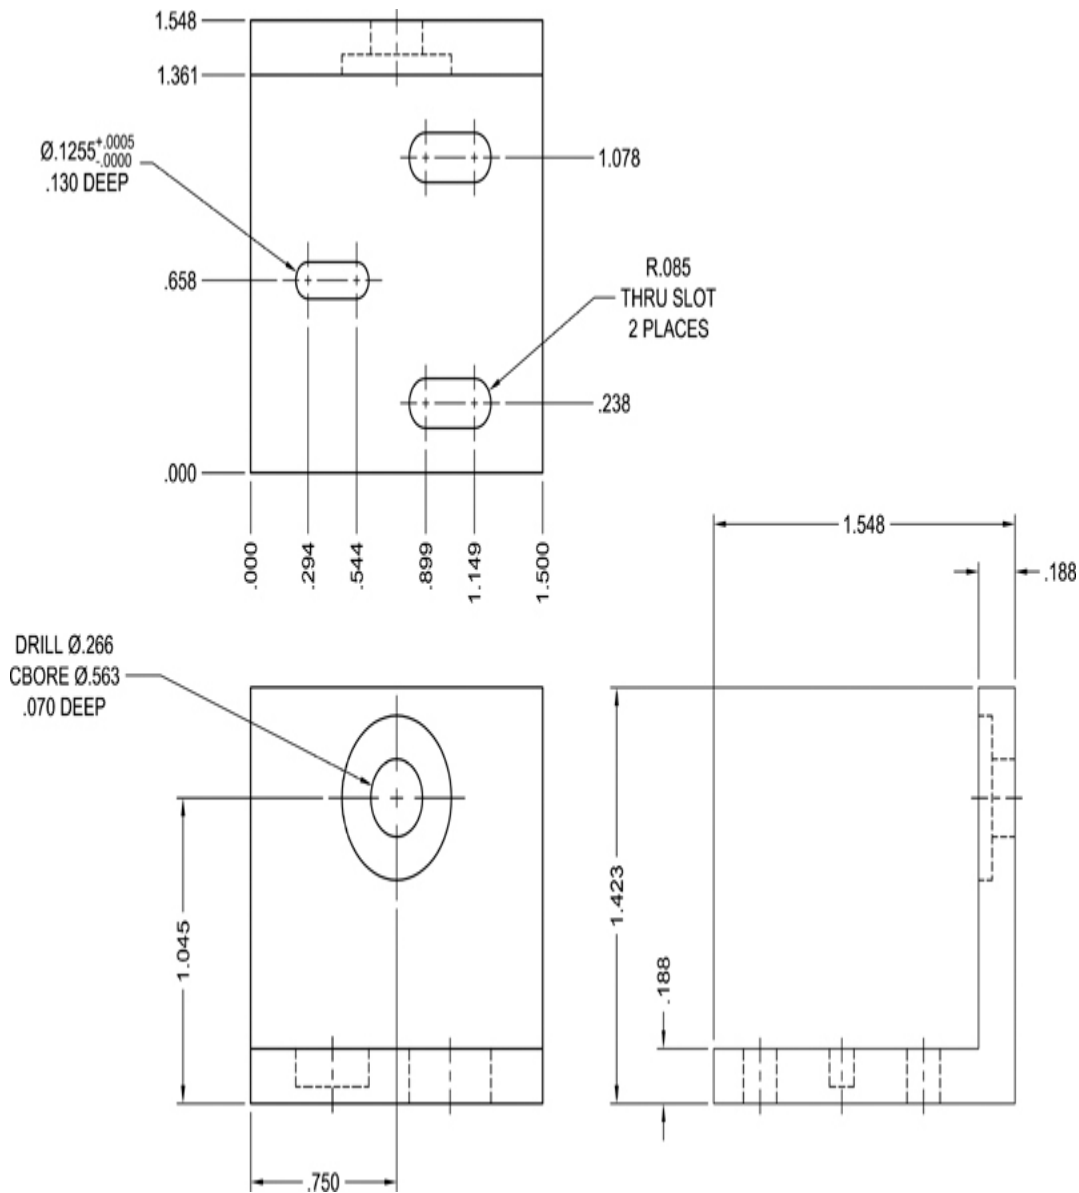

Figure 13-111
4. Add the dimensioning shown in Figure 13-111. *Hint:* Use the **QDIM** command to create ordinate dimensioning.